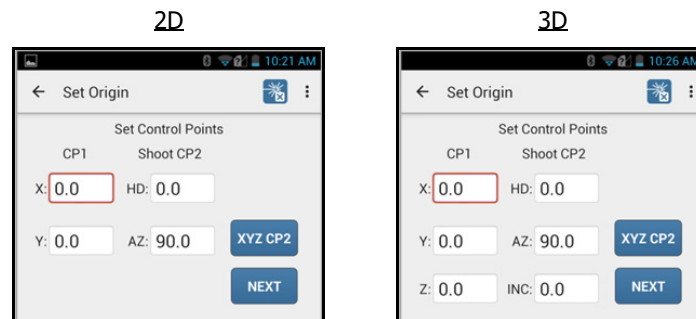

Figure 27
1. Tap [HD AZ CP2] to set CP2 using the laser to automatically enter the location. The screen will change to Figure 27.